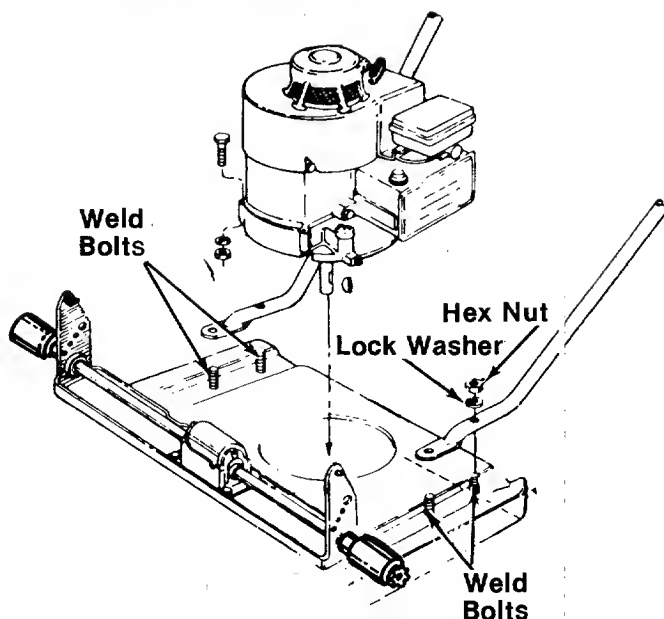

FIGURE 3.
1. Remove the nuts and lock washers on the four weld bolts on the rear frame of the mower. See figure 3.
2. Place the handle assembly over the weld bolts as shown in figure 3.